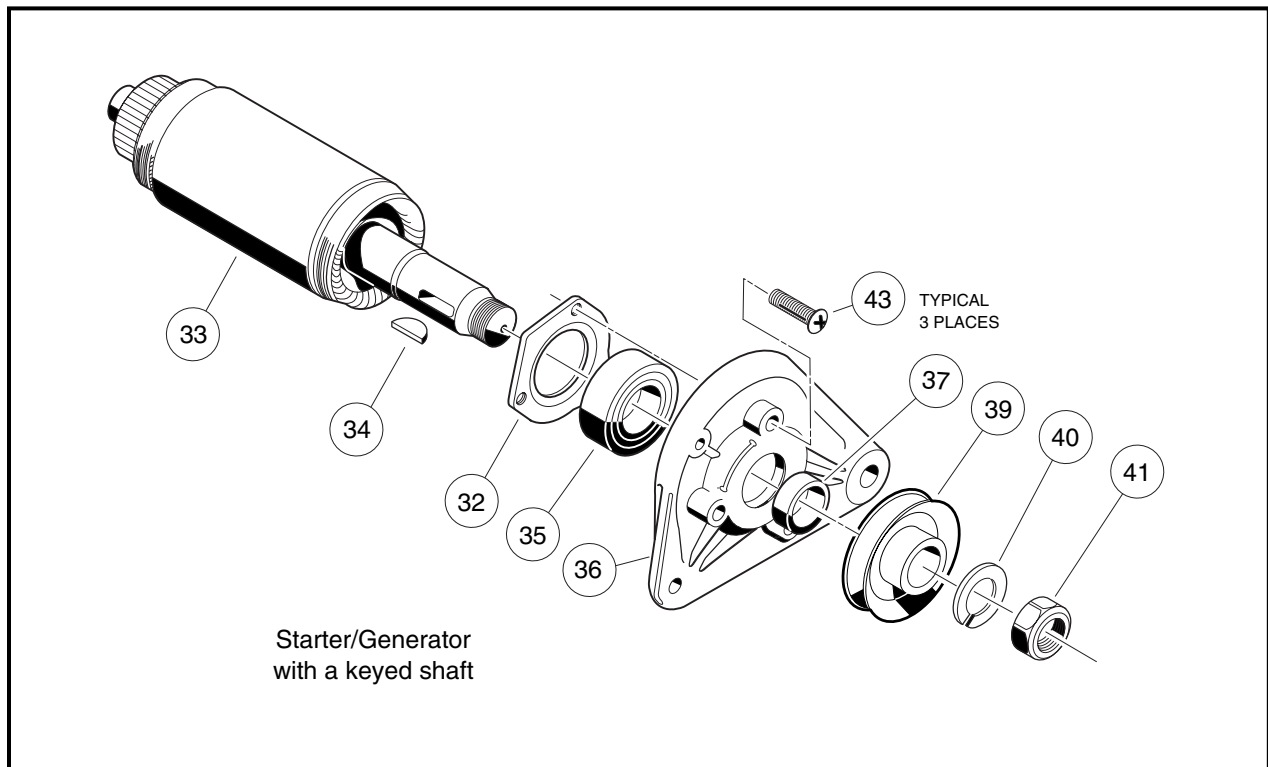

FIGURE 12-42
- To separate armature (33) from output end cover (36), remove nut (41), lockwasher (40), pulley (39), shaft key (34), spacer (37), and bearing retainer screws (43) (**Figure 12-42**).
3. Slide the bearing retainer (32) off of the output end of the shaft (**Figure 12-42, Page 111**).
- Slide the bearing retainer onto the output end of the armature shaft (33) so that it will hold the outside of the bearing (35) only. Press a new ball bearing (35) onto the output end of the armature (**Figure 12-42, Page 111**). Press a new ball bearing onto the commutator end of the armature shaft.
- Install the output end cover (36) into the armature. Secure the bearing retainer (32) to the cover using the three M5 x 18mm screws (43). Tighten the screws to 35-43 in.lbs. (3.9/4.8 N-m) (**Figure 12-42, Page 111**).
- Slide the spacer (37) onto the end of the shaft. Insert the shaft key (34) into the shaft. Install the belt pulley (39) onto the shaft, then install the the lockwasher (40) and M14 nut (41). Tighten the nut to 25-30 ft. lbs. (34/41 N-m) of torque (**Figure 12-42, Page 111**).